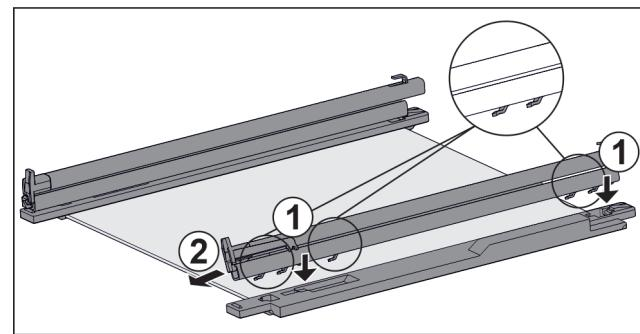

Fig. 112 Glass shelf with rails and retaining parts
- ▶ Place rail hooks onto the openings of the **left** retaining part. Fig. 112 (1)
- ▶ Push rail forwards. Fig. 112 (2)
- ▶ Place rail hooks onto the openings of the **right** retaining part. Fig. 112 (1)